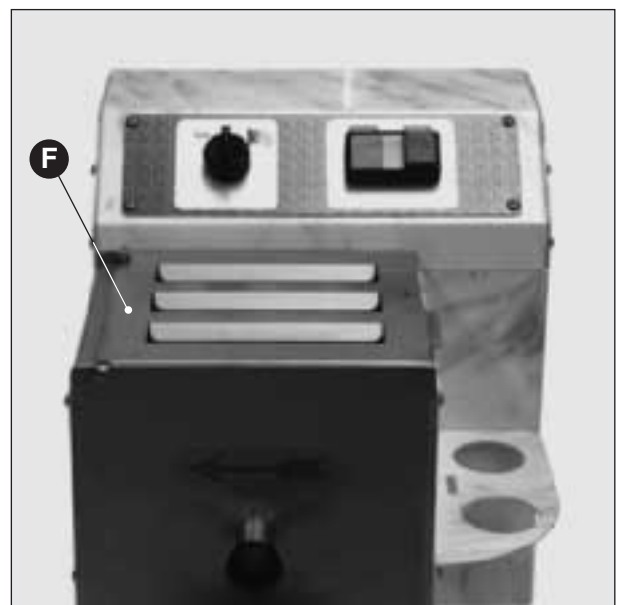

Fig. 12
**NOTE:** Every drive is voluntarily run by the start button, when the bowl cover is closed (Fig. 12 **F**).